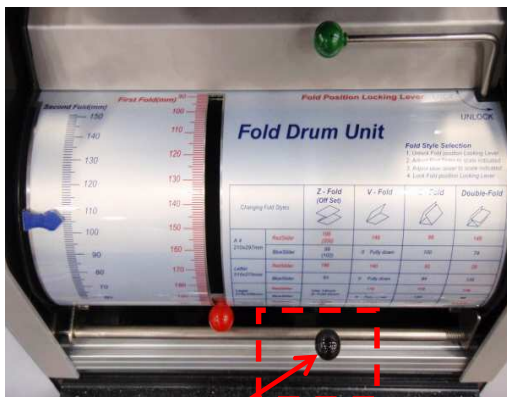

Fig 2
- Insert the tip of the tool into the right hand side of the lower sealing roller as shown in **Fig 2** and **push down on the tool anti clockwise**